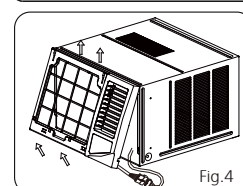

Fig.4
2. Disconnect the coupler plugs and make sure not to interfere with the temperature sensor cable. Hold the left bottom side of the frame, lift it up to unlatch the lower side, remove it toward you (See Fig. 4)